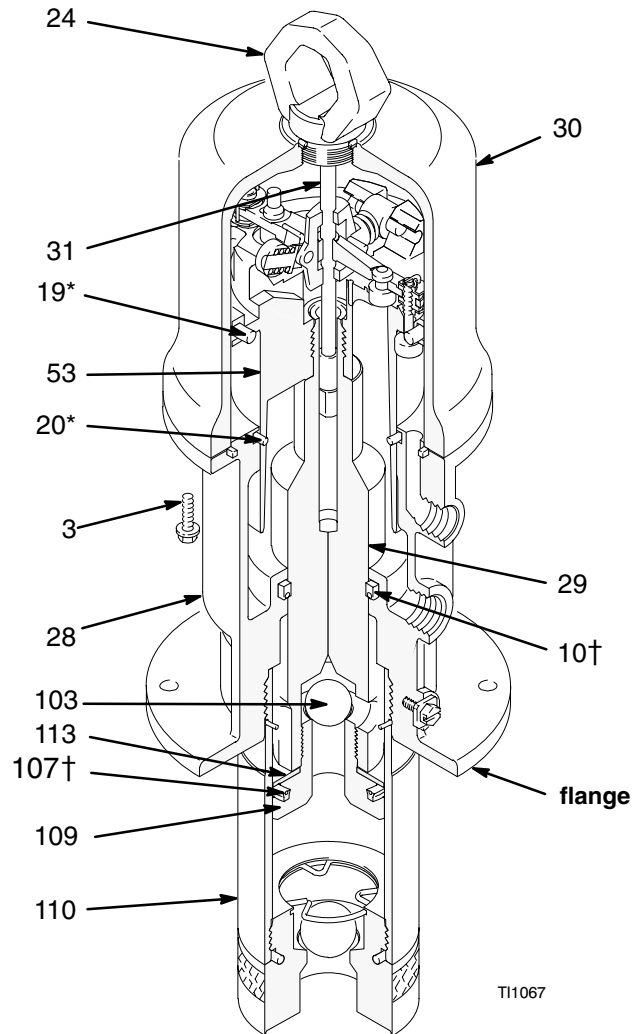

Fig. 3
2. Disconnect the hoses, remove the pump from its mounting, and clamp the air motor base (28) in a vise horizontally by closing the vice jaws on the flange.
3. Use a strap wrench on the displacement pump cylinder (110) to screw it out of the air motor base (28). See Fig. 3.
4. Remove the air motor base from the vise, and place the piston rod (29) flats in the vise with the air motor up.
5. Loosen the lift ring (24). Pull the lift ring up, grip the trip rod (31) with the padded pliers, and screw the lift ring off of the rod.
6. Remove the piston/valve seat (109) from the rod (29) with wrenches or with the vice and a wrench.
7. Remove the piston ball (103), u-cup packing (107†), and piston washer (113).
8. Remove the six screws (3) holding the cylinder (30) to the base (28). Carefully pull the cylinder straight up off of the piston (53).
- Slide the piston rod (29) down through the packing, and lower the piston (27) into the air motor base (28).
- Clamp the air motor base (28) in a vise horizontally by closing the vice jaws on the flange.
- Install the u-cup packing (107†) with the lips up, and place the piston washer (113) on the piston/valve seat (109).
- NOTE:** Make sure the lips of the u-cup packing (107†) face up. See Fig. 3.
- Place the piston ball (103) in the piston rod (29).
- Apply Loctite® to the threads of the piston/valve seat (109), and thread the assembly from Step 14 onto the piston rod (29).
- Clamp the flats of the piston/valve seat (109) in a vise, and, using a crow's-foot wrench, torque the piston rod (29) to the piston valve seat to 40 to 60 ft-lb.
- Use a strap wrench to screw the displacement pump cylinder (110) to the air motor base (28), and torque with a crow's-foot wrench to 95 to 105 ft-lb.